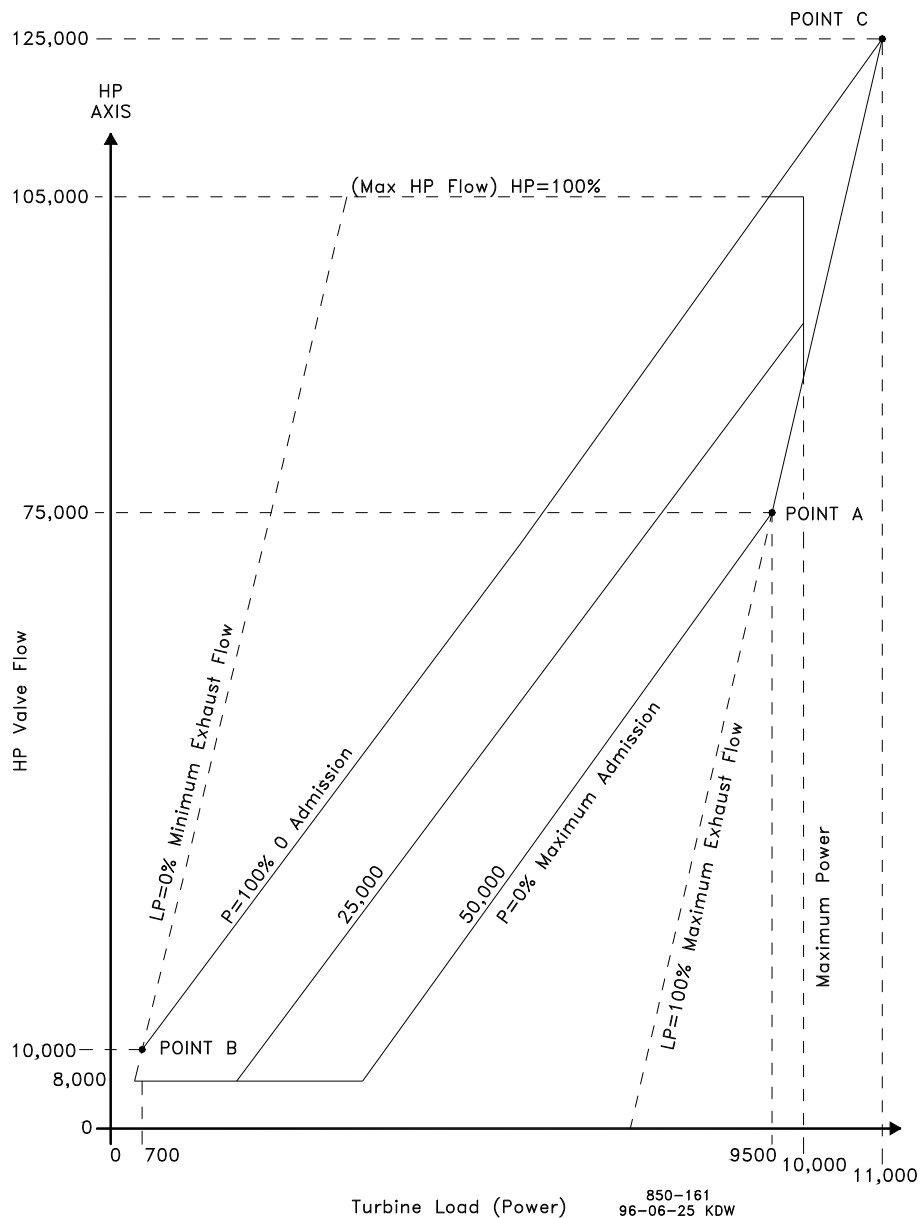

Figure 4-5. Typical Admission Steam Map
Before a turbine’s admission steam map can be programmed into the control, it must have the intersection points A, B, & C (refer to Figure 4-5).
If only point A exists, your map will have to be modified to include points B & C. The LP=0 line will need to be created. To create the LP=0 line you must know the minimum required steam flow through the back-end of the turbine. In our example steam map (Figure 4-5) the minimum required flow was 10 000 lb/h (4536 kg/h).
1. Extend the zero admission (or induction) line (p=100%). Refer to Figure 4-5.
The nine values needed can be taken from the converted steam map. An example has been provided using the steam map in Figure 4-5.